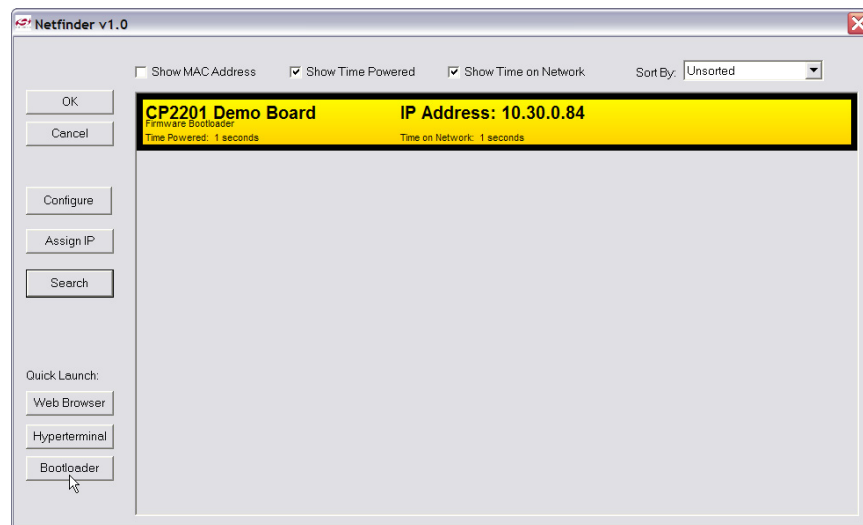

Figure 14. Searching for the CP2201EB in Bootload Mode
2. **Wait 5–10 seconds**, then the CP2201EB should appear in yellow with a text description "Firmware Bootloader" as shown in Figure 14. **Note: If the embedded system does not appear inside a yellow window, then keep searching until you see a yellow window with the title 'CP2201 Demo Board'.**